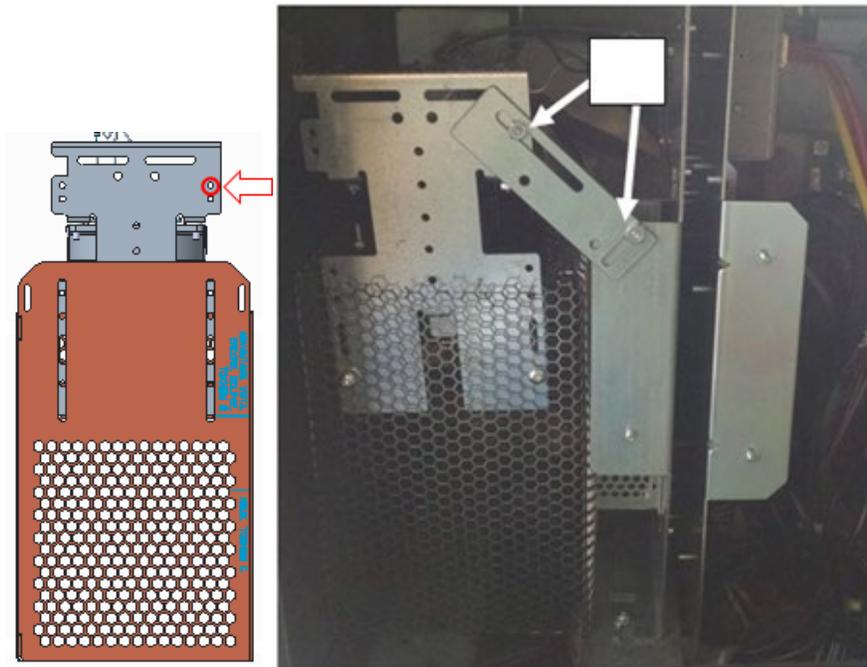

Figure 77
30) Attach OPTIC heater offset link plate (497-0522788) as shown using one pair of provided 6-32 screw and nut (006-8611215 and 006-8611426) and one provided 8-32 nut (006-8611730). This will ensure the front-to-back location of the heater wire guard (497-0522796) and ensure the wire guard does not slide forward See Figure 77 below.